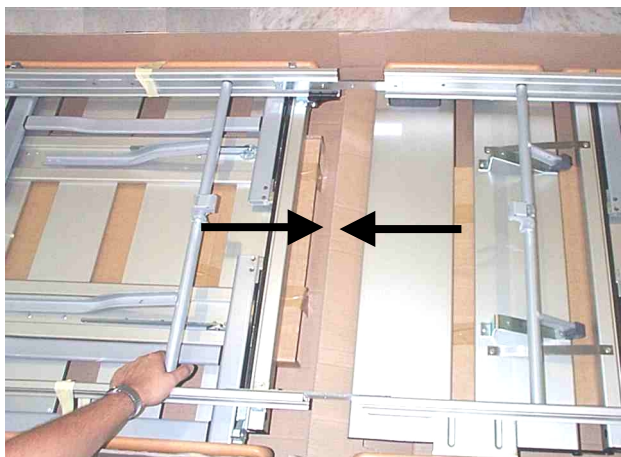

Figure 5
- Push the head and foot sections of the mattress-frame together. This should be done without removing the packing material (see above) to avoid damaging wooden and aluminium surfaces (see Figure 5).